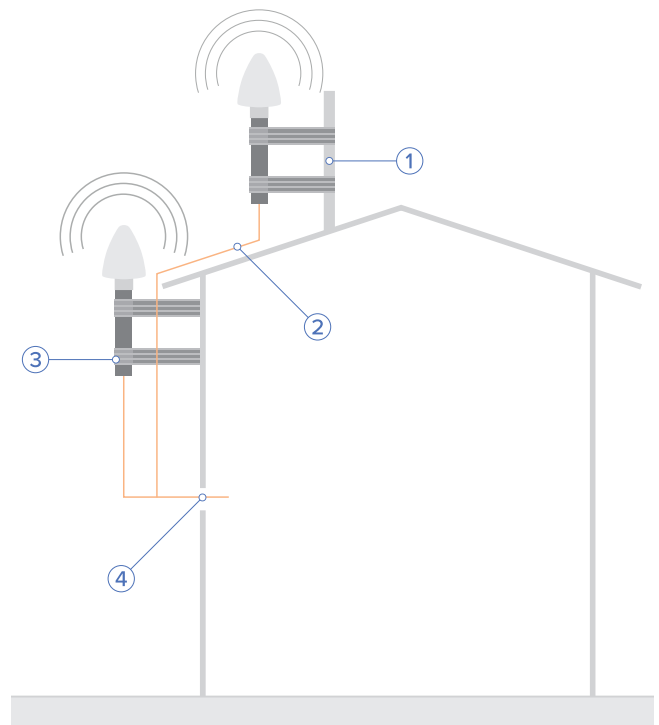

Fig. 1: Ideal Positioning
To avoid difficulties with synchronization of your connected Meinberg time server, select a location that allows for an unobstructed view of the sky (Fig. 1) so as to ensure that enough satellites can be found.
To ensure that your antenna has the best 360° view possible, Meinberg recommends mounting the antenna on a roof on a suitable metal pole (see Fig. 1, antenna on right). If this is not possible, the antenna may be mounted on the wall of a building, but must be high enough above the edge of the roof (see Fig. 1, antenna on left).
- Vertical installation of antenna (see Fig. 1)